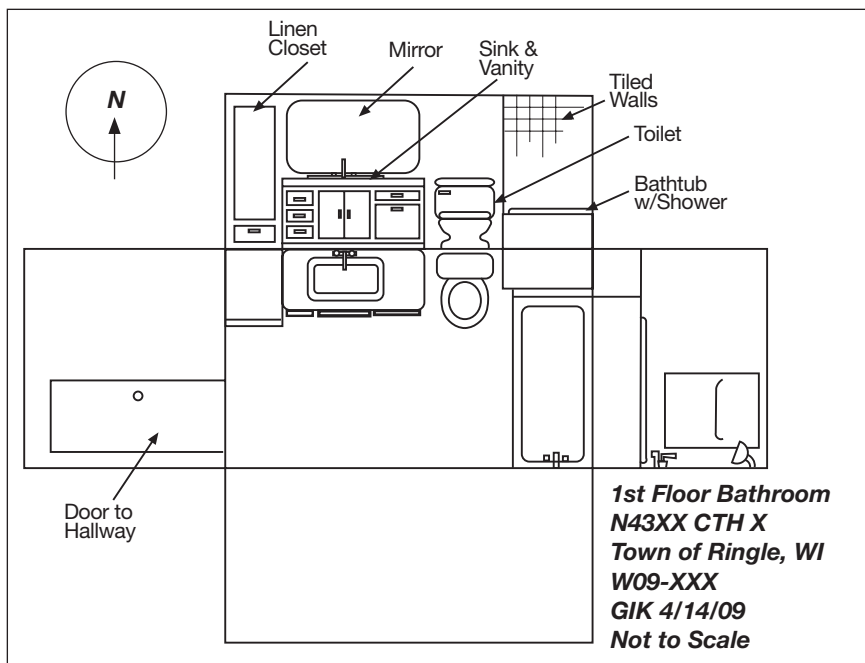

Fig. 4-3
- C.** Exploded view or cross-projection sketch – consists of a combination of the first two sketches. It is similar to a floor plan except the walls have been laid out flat and objects on them have been shown in their relative positions (see Figure 4-3).